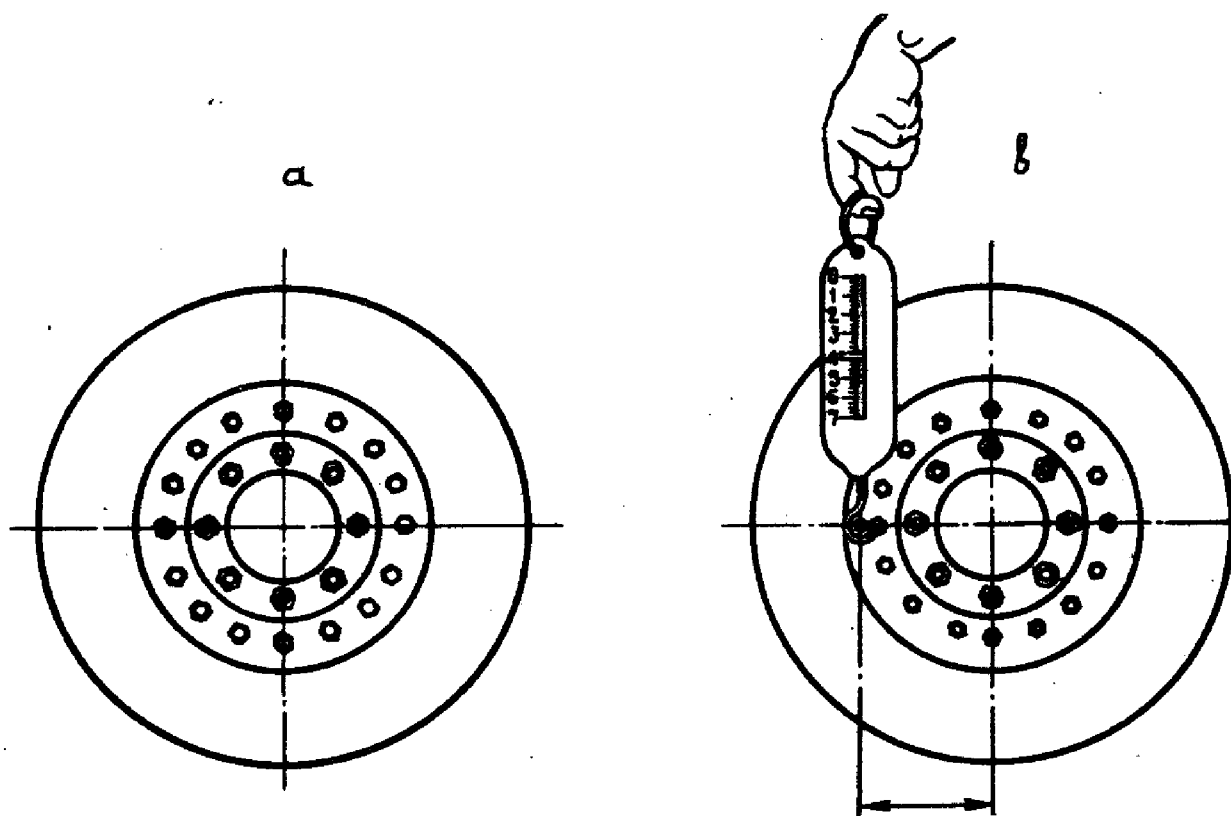

FIG.51. WHEEL BALANCING CHECK
9. Check the wheel out-of-balance (Fig.51), for which purpose: